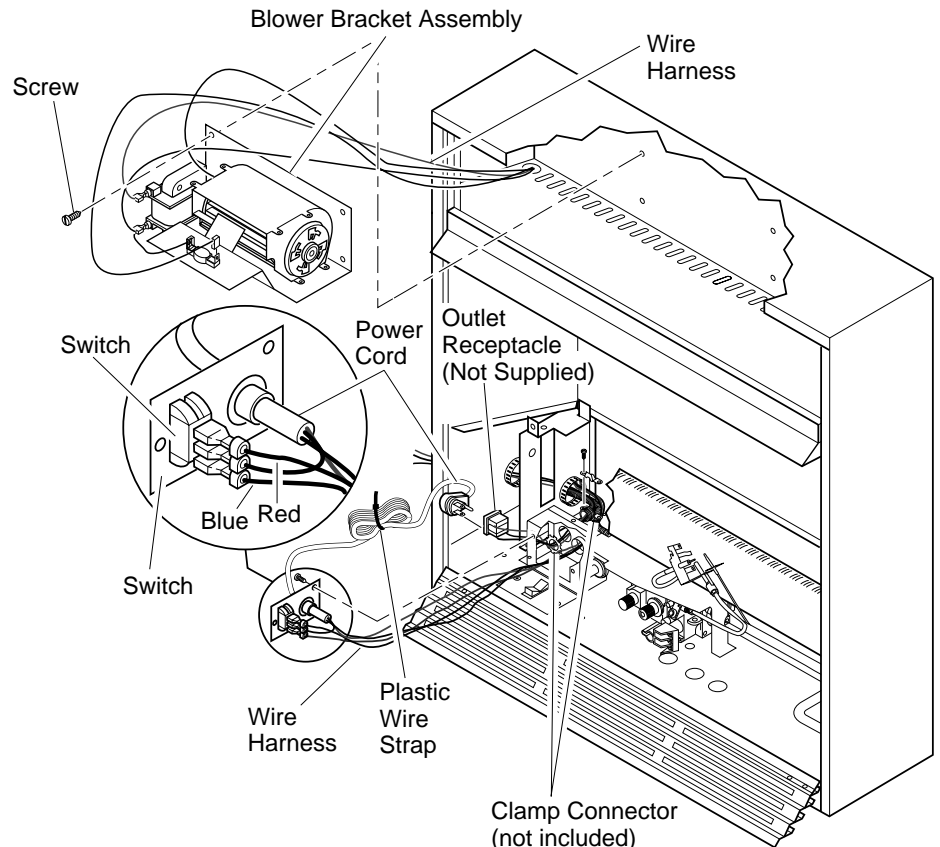

Figure 20 - Installing Blower Bracket Assembly
4. Plug power cord to the outlet receptacle (not provided) as shown in Figure 20. Wind the extra cable in power cord and tie it up with the plastic wire strap
(see Figure 20). Set the cable bundle between the burner bracket and outer casing, away from the burner.